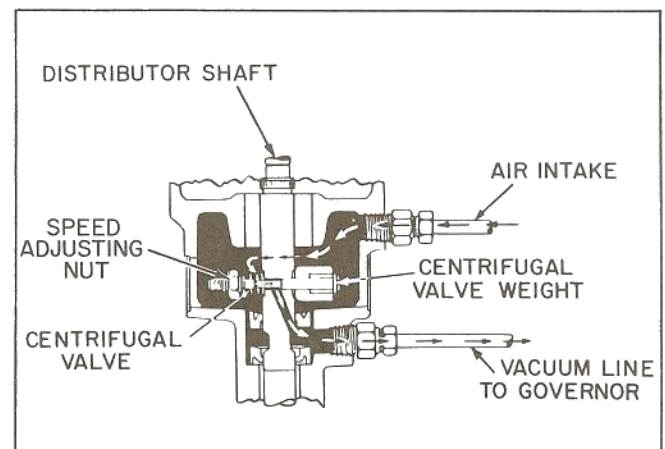

FIGURE 15
2. A centrifugal controlled vacuum bleed valve in the ignition distributor. Fig. 15.
The centrifugal bleed valve (Fig. 15) mounted in the ignition distributor shaft is nothing more than a sliding valve which is normally held open by spring tension at low engine speeds. It closes at high engine speeds, as centrifugal force of the counterweight on the end of the valve shaft moves the valve outward and covers the bleed hole.